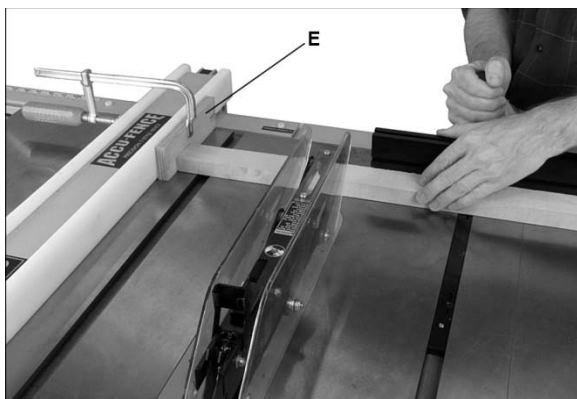

Figure 39
- ❑ Do not use the miter gauge and rip fence in the same operation unless provision is made by use of a facing board on the fence so as to allow the cutoff section of the workpiece to come free before the actual cut begins (See Figure 39).
Crosscutting should **never** be done freehand nor should the fence be used as an end stop unless an auxiliary block (E, Figure 39) is clamped to the front of the blade area such that the cutoff piece comes free of the block before cutting begins.